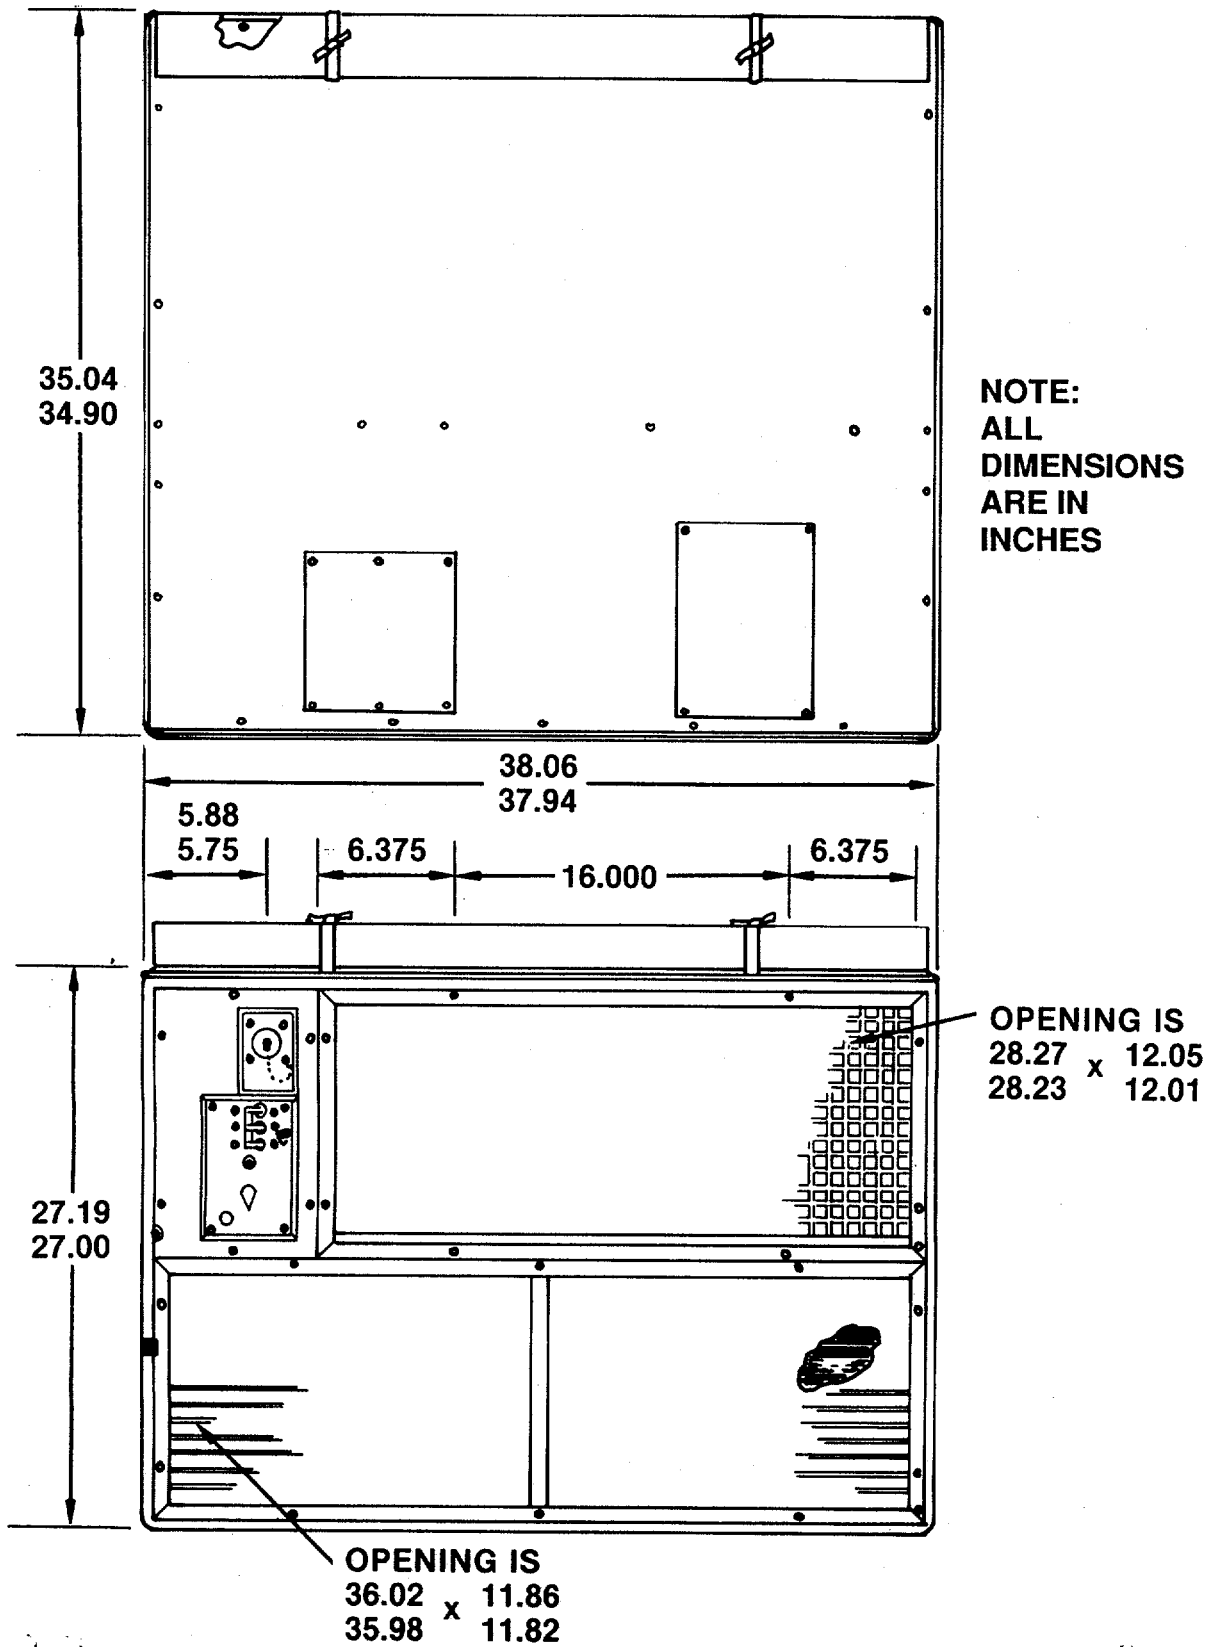

Figure 4-2. Installation Dimensions
(1) A relatively level surface capable of bearing the weight of the air conditioner on which to set the base. To insure proper condensate drainage, the surface should be level within 5 degrees from front to back and side to side. See figure 4-2 for installation dimensions.
(2) An unobstructed flow of air from outside the conditioned area to the inlet and outlet of the condenser.
(3) An unobstructed flow of air from outside the conditioned area to the fresh air damper.
(4) An unobstructed flow of air from inside the conditioned area to the conditioned air intake and discharge.
b. Through the wall installation. Prepare an opening in the wall large enough to slide the air conditioner through (See fig. 4.2). Consideration should be given to service of internal components. All openings around air conditioner must be sealed air tight.